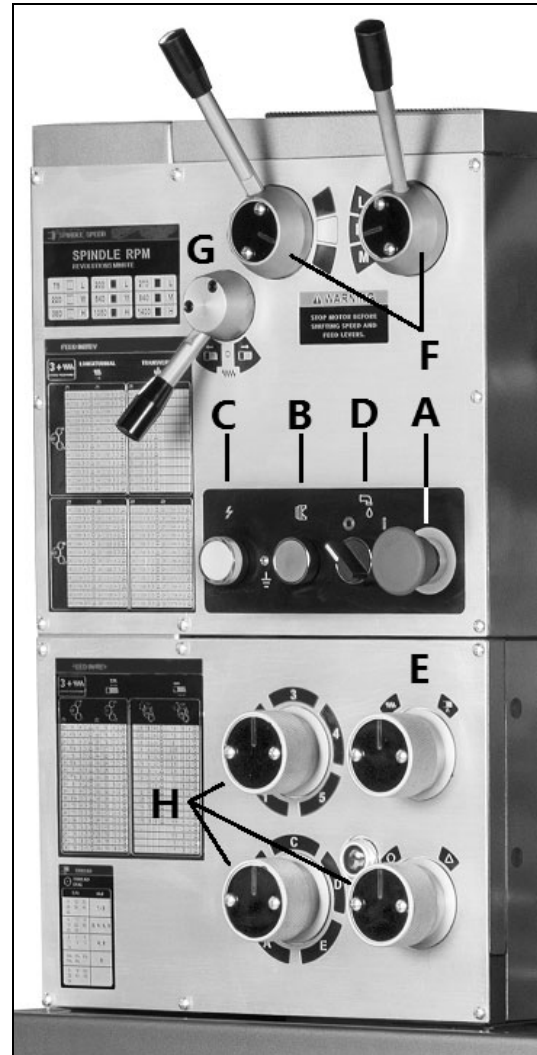

Figure 9-1
1. **Emergency Stop Switch (A, Figure 9-1)** – Press to stop all machine functions. **Caution: lathe will still have power.** Turn clockwise to re-set.
2. **Jog Switch (B, Figure 9-1)** – Press and release to advance spindle momentarily.
3. **Power Indicator Light (C, Figure 9-1)** – Illuminates whenever lathe has power.
4. **Coolant On-Off Switch (D, Figure 9-1)** – Turns coolant pump on and off.
5. **Feed Rod/Leadscrew Selector (E, Figure 9-1)** – Use knob to activate leadscrew and feed rod.
6. **Speed Selector Levers** (F, Figure 9-1) – Use to select spindle speeds in ranges.
7. **Feed Direction Selector** (G, Figure 9-1) – Selects carriage travel direction when chuck is rotating in forward direction (or counterclockwise as viewed from front of chuck).
8. **Feed Rate Selector** (H, Figure 9-1) – Use knobs to set desired feed, or lead rates.